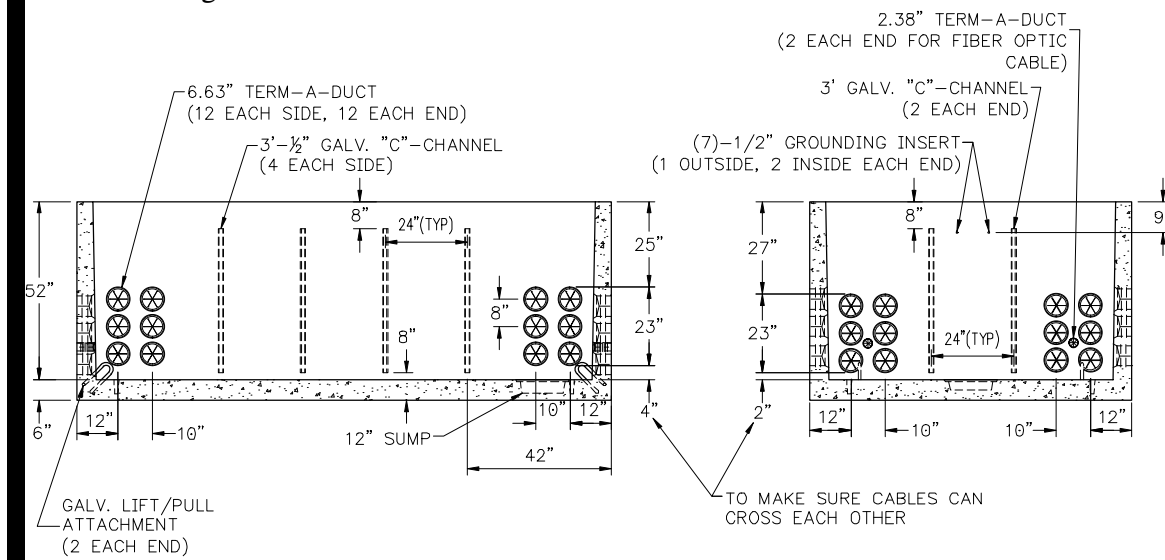

Figure 5—TERM-A-DUCT and "C"-Channel Requirements Detail for 7' x 12' (94" x 155") Padvault
"C"-channels shall consist of four (4) three-foot (3') sections on each long wall and two (2) three-foot (3') sections on each short wall, as shown in Figure 5.
Each end (short) wall: Two (2) banks of six (6) 6.63" TERM-A-DUCTS and two (2) 2.38" TERM-A-DUCTS, as shown in Figure 5.
Each side (long) wall: Two (2) banks of six (6) 6.63" TERM-A-DUCTS, as shown in Figure 5.